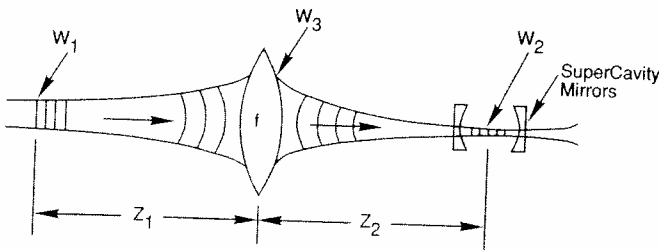

Figure 1. Mode Matching
and where w_n is the waist of the beam, $\pi = 3.14159$, and $a_n = (\pi w_n^2)/\lambda$. z is the distance from the point of interest, i.e. the lens, to the waist, as shown in Figure 1.
For large z_1 , then, $w_3 = (\lambda z_1)/(\pi w_1)$, where w_3 is half the spot diameter at the lens, as in Figure 1. Using this in (6) gives: